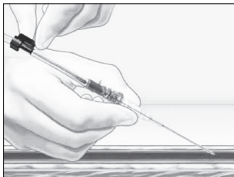

Figure 3
- Stabilize position of introducer needle and carefully advance guidewire into vessel using guidewire handle (refer to Figure 3).